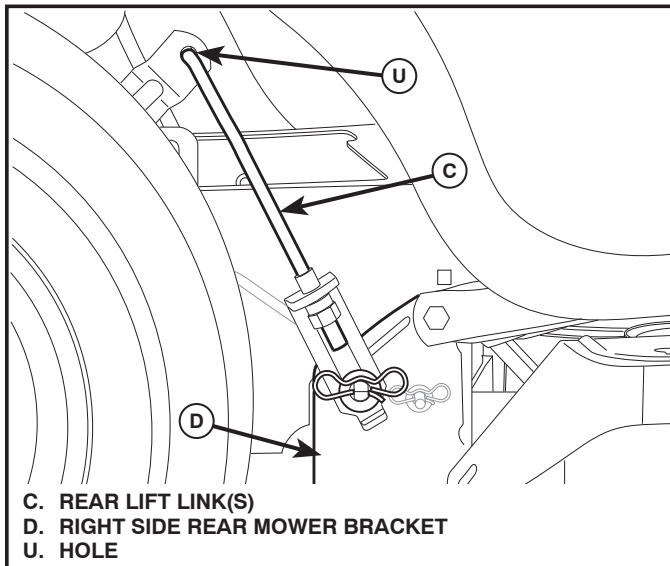

Fig. 32
7. ATTACH REAR LIFT LINKS (C) (See Fig. 32)
- Insert rod end of rear lift link (C) into hole (U) in tractor lift shaft suspension arm and pivot link down to mower.
- Lift rear corner of mower and position slot in link assembly over pin on rear mower bracket (D) and secure with large washer and large retainer spring.